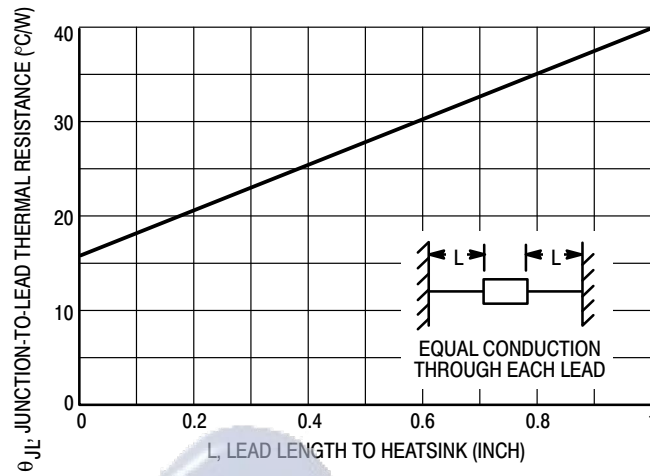
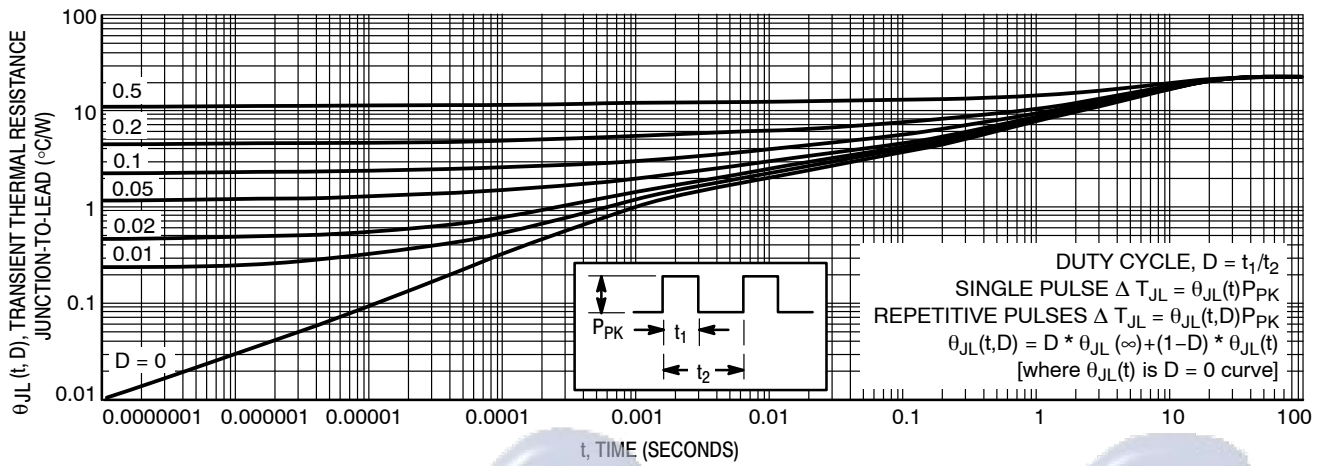
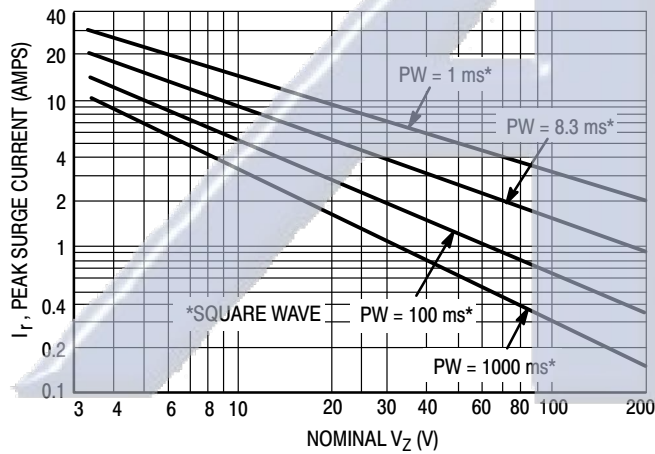
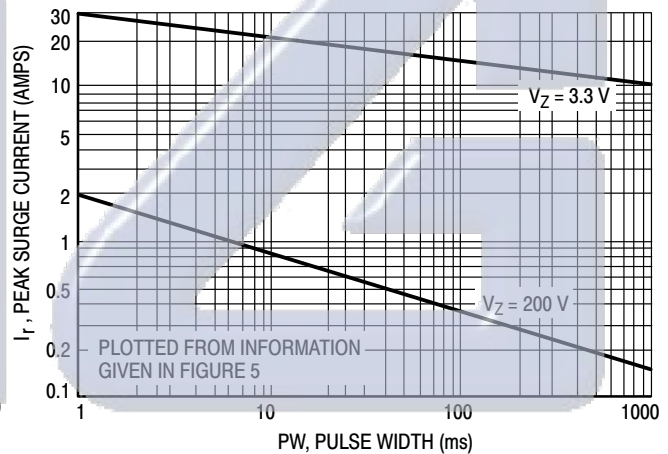

Figure 1. Typical Thermal Resistance
Figure 4. Typical Thermal Response
Figure 5. Maximum Non-Repetitive Surge Current
Figure 6. Peak Surge Current versus Pulse Width
- SURGE CURRENT ( $I_R$ ):** Surge current is specified as the maximum allowable peak, non-recurrent square-wave current with a pulse width, PW, of 8.3 ms. The data given in Figure 5 may be used to find the maximum surge current for a square wave of any pulse width between 1 ms and 1000 ms by plotting the applicable points on logarithmic paper. Examples of this, using the 3.3 V and 200 V zener are shown in Figure 6. Mounting contact located as specified in Note 2 ( $T_A = 25^\circ\text{C} + 8^\circ\text{C}, -2^\circ\text{C}$ ).
- SURGE CURRENT ( $I_P$ ):** Surge current is specified as the maximum allowable peak, non-recurrent square-wave current with a pulse width, PW, of 8.3 ms. The data given in Figure 5 may be used to find the maximum surge current for a square wave of any pulse width between 1 ms and 1000 ms by plotting the applicable points on logarithmic paper. Examples of this, using the 3.3 V and 200 V zener are shown in Figure 6. Mounting contact located as specified in Note 7 ( $T_A = 25^\circ\text{C} + 8^\circ\text{C}, -2^\circ\text{C}$ ).
$\Delta T_{JL}$  is the increase in junction temperature above the lead temperature and may be found from Figure 4 for a train of power pulses or from Figure 1 for dc power.
Data of Figure 4 should not be used to compute surge capability. Surge limitations are given in Figure 5. They are lower than would be expected by considering only junction temperature, as current crowding effects cause temperatures to be extremely high in small spots resulting in device degradation should the limits of Figure 5 be exceeded.